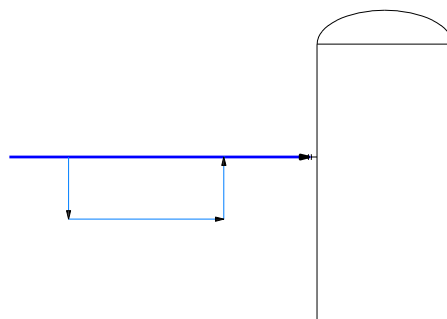

Figure 2-50 Loop created on the previous line
3. Choose **Secondary Line Segment** from the **Lines** tab in the **TOOL PALETTES - P&ID PIP** and create the loop, as shown in Figure 2-50.